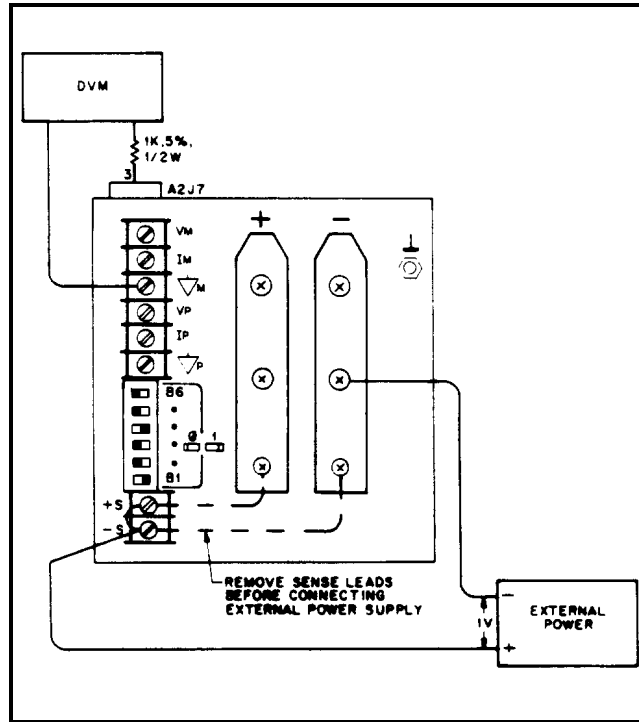

Figure 2-1. Common Mode Setup
- e. Remove both local sensing straps from rear-panel terminal block, and connect a 1-volt external power supply with its + lead to - S and its--lead to - Out. See Figure 2-1.
- a. Attach the DVM from  $\nabla$  M on the rear panel to A2J7 pin 3 (V-MON buffered). See DVM connection in Figure 2-1.